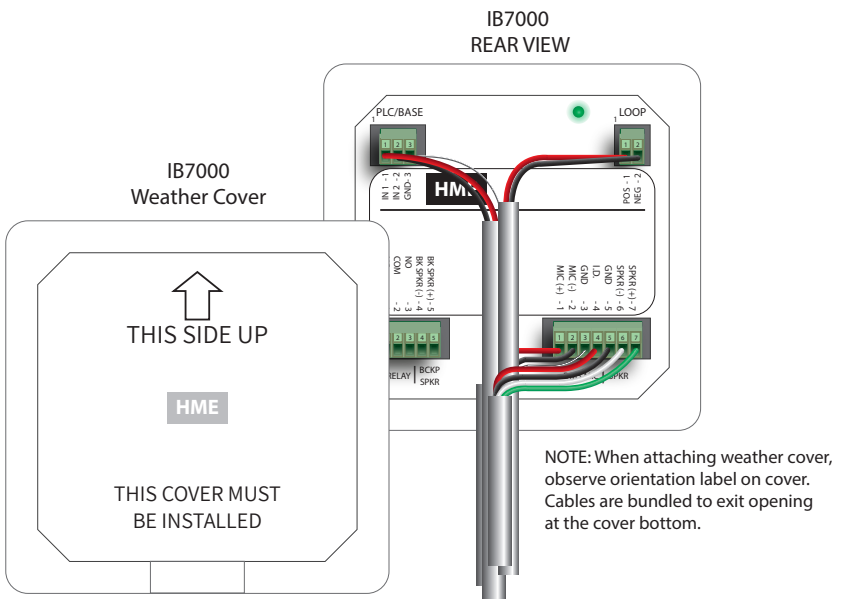

Fig. 4
**Note:** The cover must be oriented and installed the correct way to be effective (see Fig. 4).
1. Orient the weather cover correctly before installing (see the up arrow on the cover rear, Fig. 4 & 5).